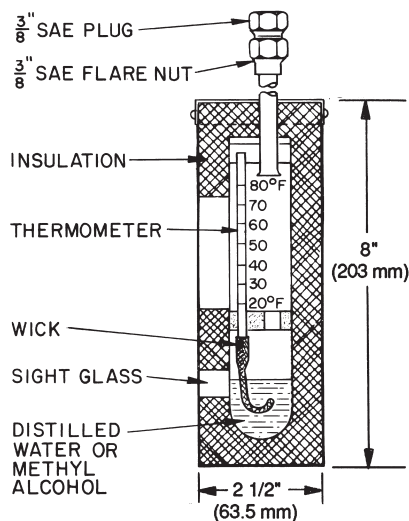

Fig. 38 — Typical Wet-Bulb Type Vacuum Indicator
- absolute pressure manometer or wet-bulb vacuum indicator (Fig. 38)